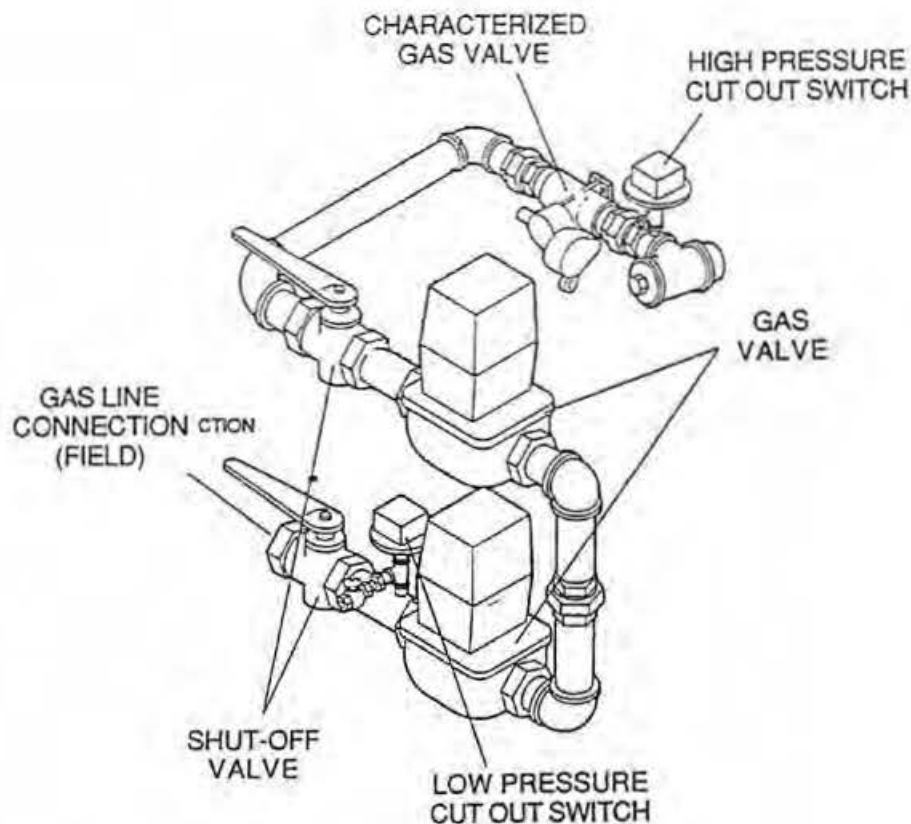

Figure 8. Retrofit Gas Train (Main)
17. Connect main gas line to gas train connection on **TurboFire® II**. See Figure 8 "Retrofit Gas Train (Main)".